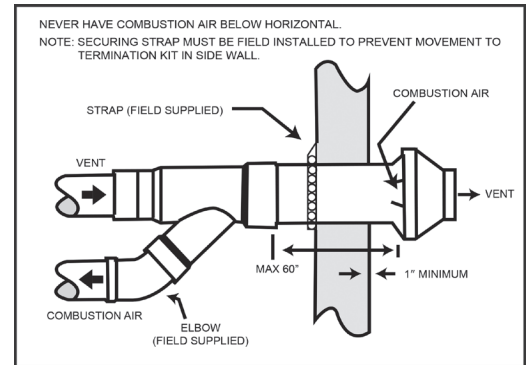

Figure 6 - Sidewall Installation
6. Secure assembly to structure using field supplied metal strapping or equivalent support material (see Fig. 6).
**NOTE:** If assembly needs to be extended to allow sidewall thickness requirement, the two pipes supplied in the kit may be replaced by using the same diameter, field supplied SDR-26 (D2241) pipe. Do not extend Dimension D to more than 60" (see Fig. 6). **DO NOT USE COUPLINGS TO EXTEND PIPE.**
7. Cement air inlet and exhaust vent pipes to concentric vent termination assembly. See Fig. 6 for proper pipe attachment.